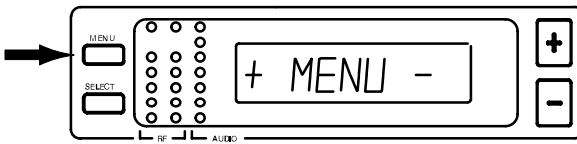

FIGURE 25
1. Press the MENU button. The "+ MENU -" display appears, as shown in Figure 25.